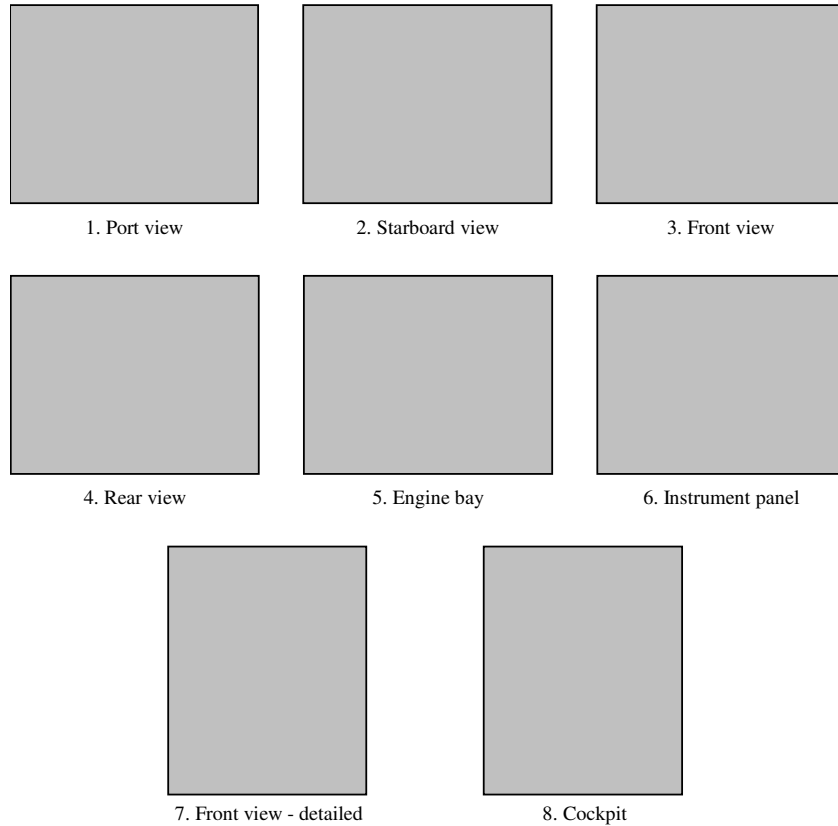
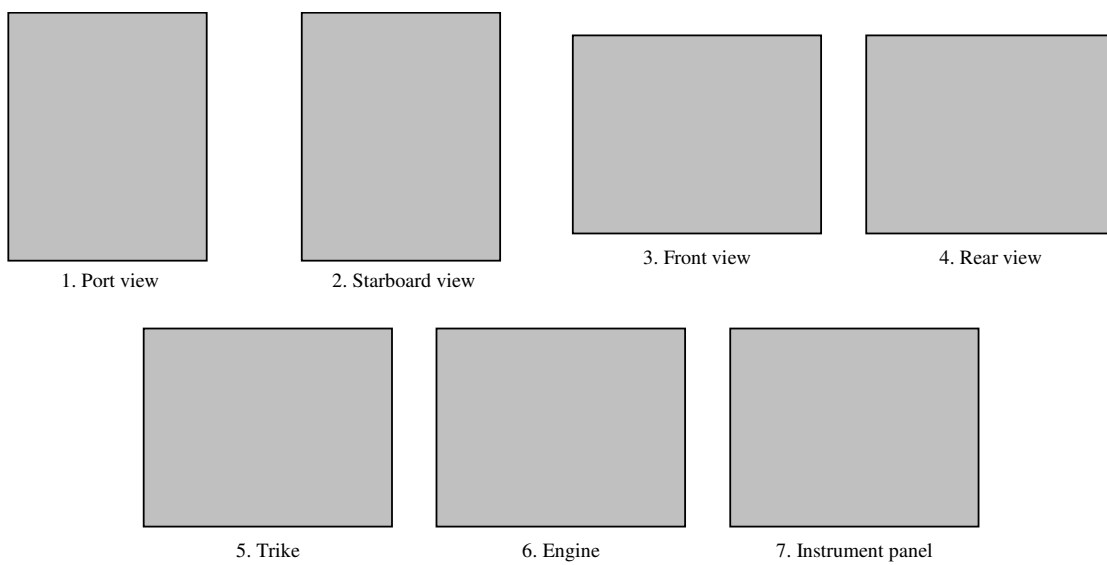

Figure 2a: photographs required for 3-axis control aircraft
Figure 2b: photographs required for weight shift control aircraft
- 2.4.6 A set of photographs of the aircraft must be supplied to the BMAA at the completion of the build. These help clarify the configuration of the aircraft and can answer a lot of trivial questions that the Technical Office would otherwise have to ask of the owner or inspector. The photographs required are specified in figure 2a (3-axis control aircraft) and figure 2b (weight shift control aircraft)
- Photographs of the aircraft as specified in figure 2a (3-axis control aircraft) and figure 2b (weight shift control aircraft). Photographs can be sent as prints or electronically (on CD, DVD or by email to cto@bmaa.org). Unfortunately CDs and DVDs cannot normally be returned.